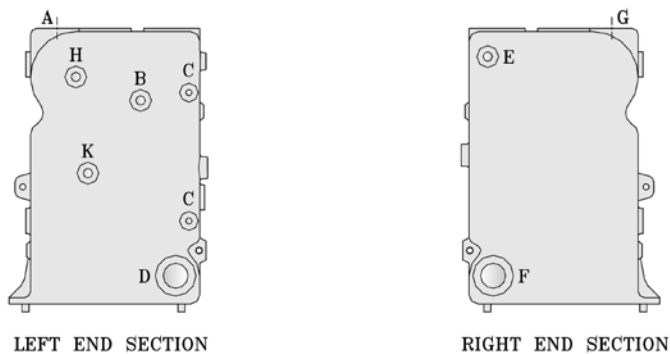

Figure 4: Purpose of Tappings
- D. **Install Safety Valve** in Tapping 'E'. See Figure 4. Use $\frac{3}{4}$ NPT x 3" nipple and $\frac{3}{4}$ elbow provided. **Safety Valve must be installed with spindle in vertical position.**
E. Install Drain Valve in Tapping 'F'. See Figure 4.